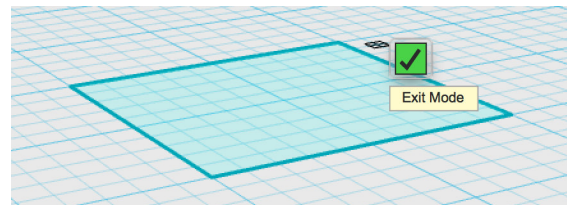

Figure 4-16 Click the green box to exit
6. Select the green checkbox to exit (Figure 4-16).